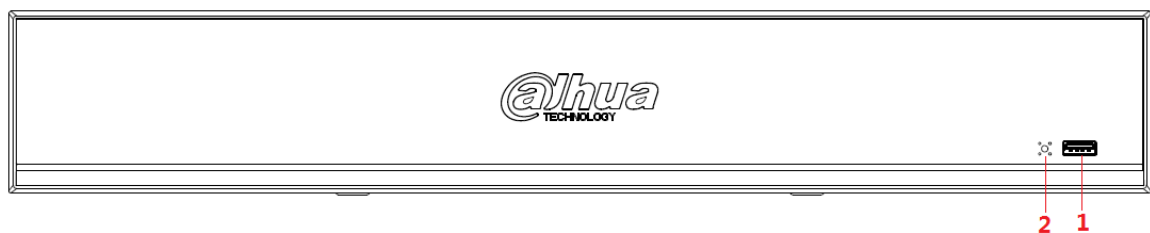

Figure 2-2
- Figure 2-2 takes NVR5432-16P-I/5216-16P-I/5216-8P-I series as examples.